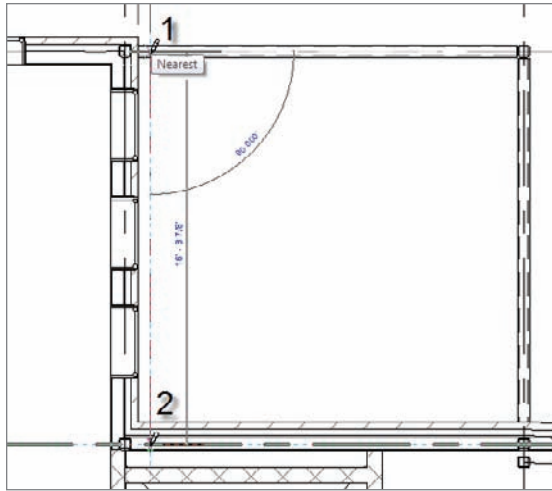

FIGURE 8.37 Adding a beam 6" off the face of the wall to the center of the beam
11. Draw a beam 6" off the finish face of the wall starting at the top beam, ending in the wall, as shown in Figure 8.37.